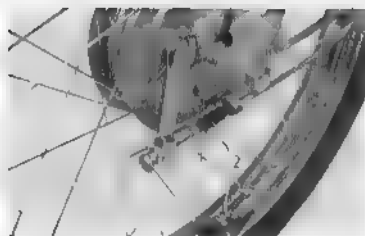

Fig. 4.17 Adjusting nut
① Front brake adjusting nut
② Front brake cable
8. Connect the front brake cable and make the adjustment with the adjusting nut ① at the brake arm. Adjust so that there is 10 mm to 20 mm (0.40~0.80 in) of free travel at the brake lever (Fig. 4.17).